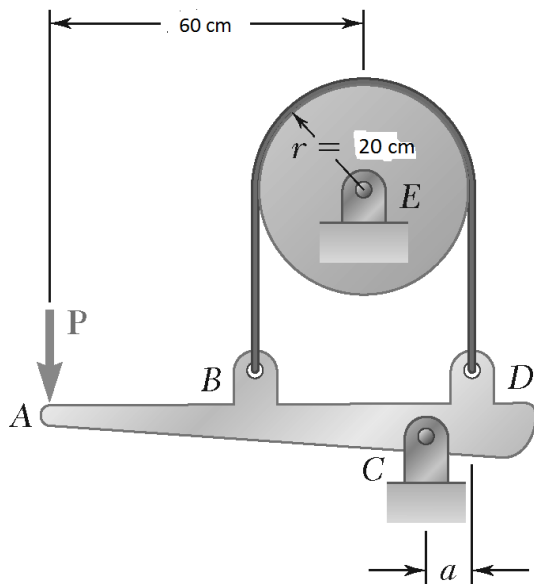

Fig. 5
Q.5 The speed of the brake drum as shown in Fig. 5 is controlled by a belt attached to the control bar AD . A force \mathbf{P} of magnitude 100 N is applied to the control bar at A . Determine the magnitude of the couple being applied to the drum, knowing that the coefficient of kinetic friction between the belt and the drum is 0.25, that $a = 5 \text{ cm}$., and that the drum is rotating at a constant speed (a) counterclockwise, (b) clockwise
Q.5. The speed of the brake drum as shown in Fig. 5 is controlled by a belt attached to the control bar AD . A force P of magnitude 100 N is applied to the control bar at A . Determine the magnitude of the couple being applied to the drum, knowing that the coefficient of kinetic friction between the belt and the drum is 0.25, that $a = 5 \text{ cm}$, and that the drum is rotating at a constant speed (a) counterclockwise, (b) clockwise